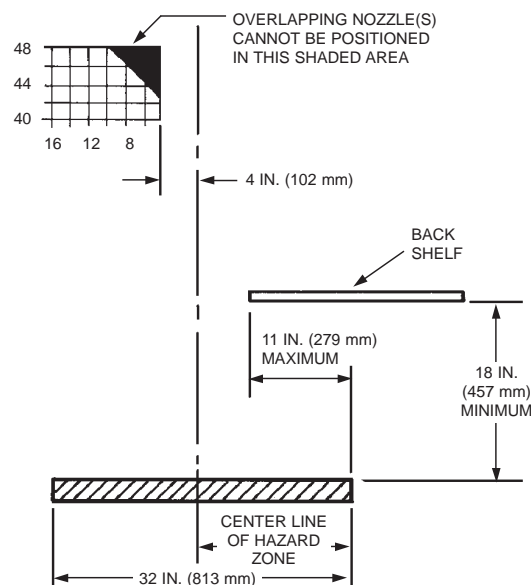
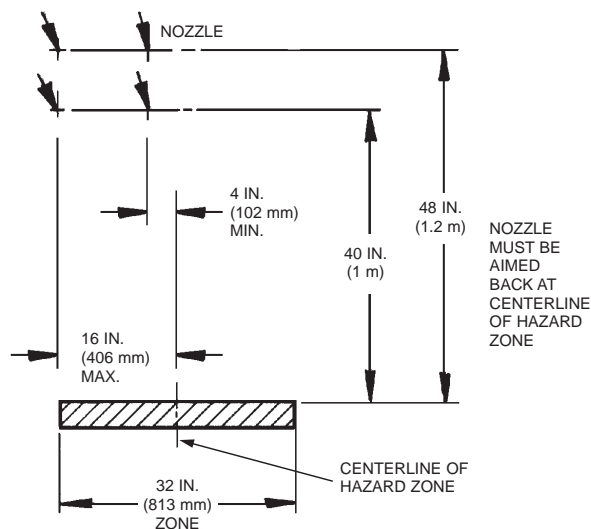

FIGURE 2
FIGURE 2a
2. The overlapping high proximity appliance nozzles must be located 40 in. to 48 in. (1 m to 1.2 m) above the top surface of the protected appliances. See Figure 2a. Exception No. 1: Nozzle dimensions for wok protection are measured to bottom of wok. Exception No. 2: When using overlapping high proximity appliance nozzles in areas where there is a back shelf, the nozzle cannot be positioned in the shaded area as shown in Figure 2. Also, back shelf must not extend more than 11 in. (279 mm) over the hazard zone or be less than 18 in. (457 mm) above the hazard zone. See Figure 2.
3. The overlapping high proximity appliance nozzles must be located 4 in. to 16 in. (102 mm to 406 mm) forward of the centerline or aimline of the selected hazard zone. See Figure 2a.